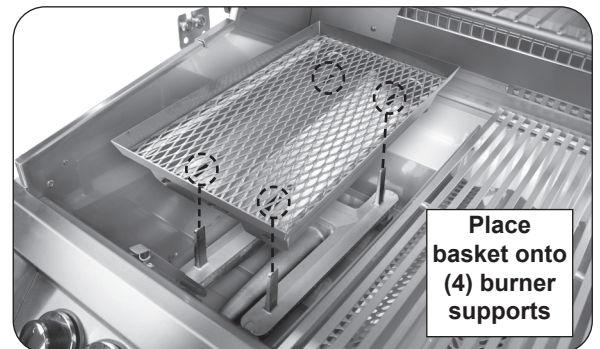
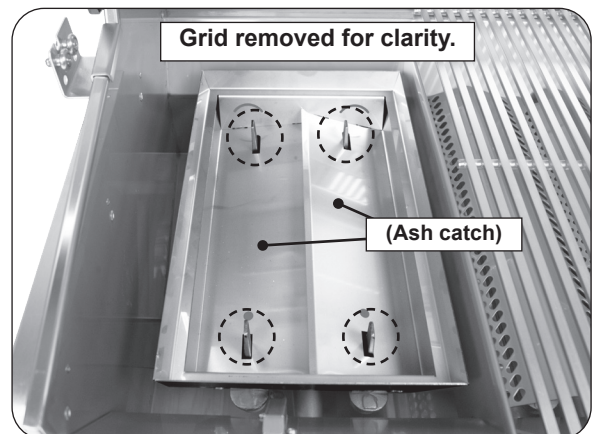

Fig. 38-3 Place basket onto burner
Fig. 38-4 Basket placement detail
3. Place basket onto burner in place of flavor grid. Align basket cutouts over burner supports (see Fig. 38-3 and Fig. 38-4).